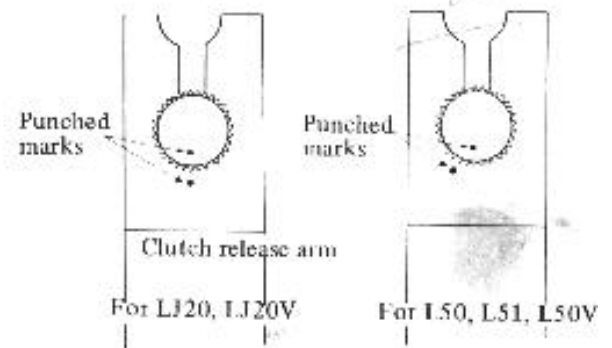

Fig. 7-3
3. The installation of the clutch release arm will be difficult after the transmission is mounted, and therefore, before mounting the transmission, install the arm so that the punched mark on the arm is off the mark on the shaft by two notches for LJ20, LJ20V and on the mark on the shaft for L50, L51 L50V as shown in the Fig. 7-3.